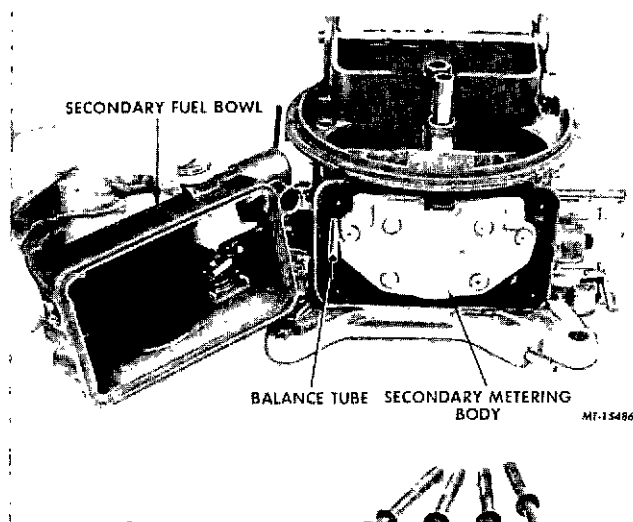

FIG. 36 Removal or Installation of Secondary Fuel Bowl (Model 4160)
14. Remove secondary fuel bowl from carburetor body (Figure 36). **NOTE: Disassembly of the secondary fuel bowl is similar to the primary bowl. The fuel inlet baffles are not interchangeable.**